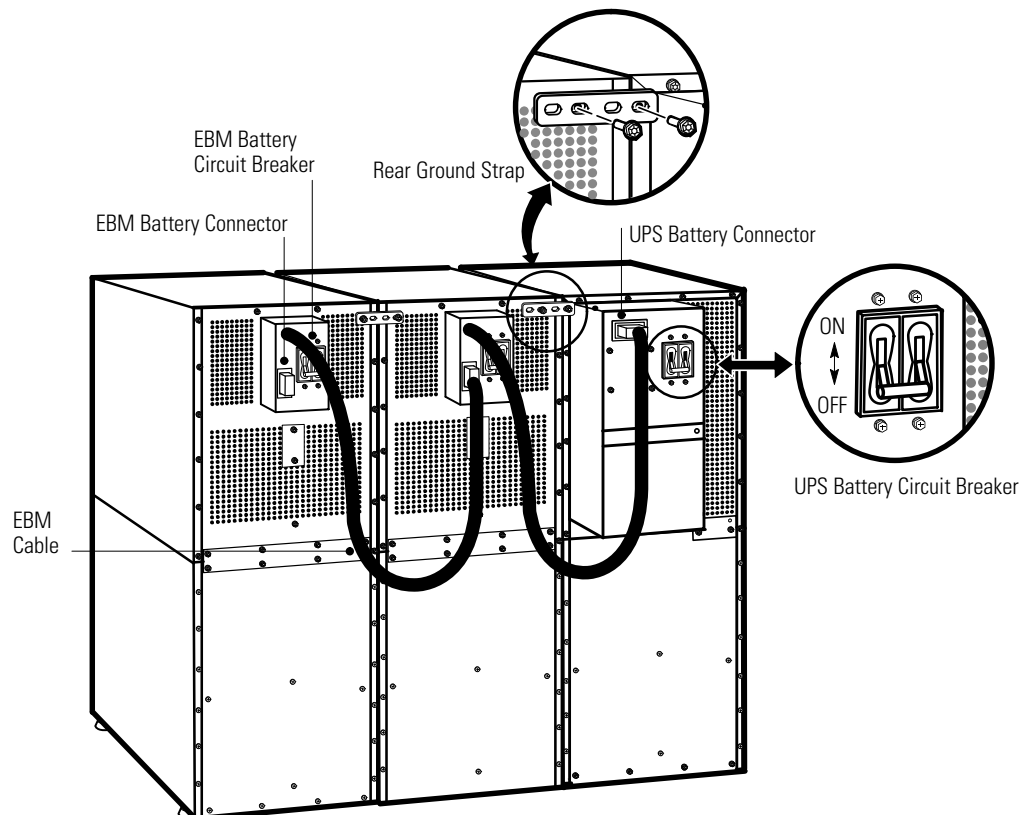

Figure 34. Typical EBM Installation (2-High Cabinets Shown)
2. Verify that all battery circuit breakers are in the OFF position (see Figure 34).
4. Install one ground strap between the UPS and EBM rear panels as shown in Figure 34.
5. If additional EBMs are installed, attach another ground strap between the first and second EBM as shown in Figure 34. Repeat for each additional EBM.